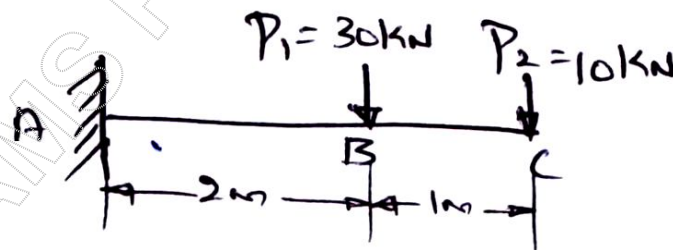

Fig.Q8(b)
- b. A cantilever is subjected to the free as shown in Fig.Q8(b). Determine the deflection at the free end, taking  $E = 210 \text{ GPa}$  and  $I = 20 \times 10^{-4} \text{ m}^4$ .